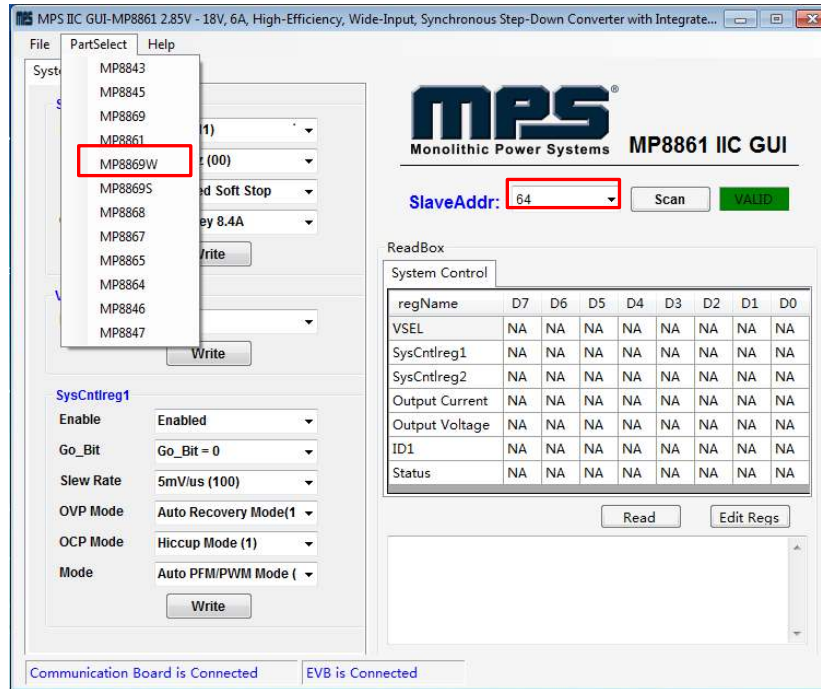
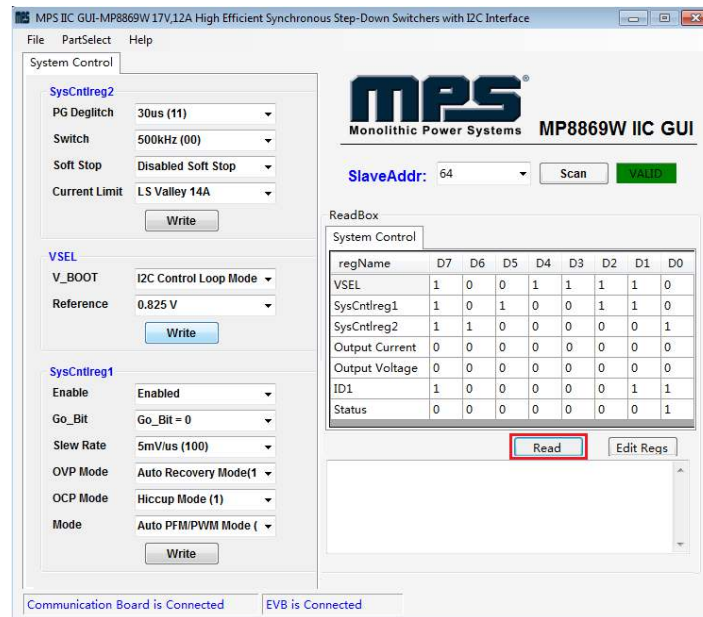

Figure 7: Appearance of Address Indicates Successful Connection
Figure 9: Values from I²C Shown in Table
- If the connection is successful, the address will be listed in the “Slave Address” (see Figure 7).
- Click the “Part Select” button to select the MP8869W (see Figure 7). The default GUI window is for the MP8861. The Register Control menu will appear on the left side. I²C register values will be read and displayed on the right side after clicking the “Read” button (see Figure 9).